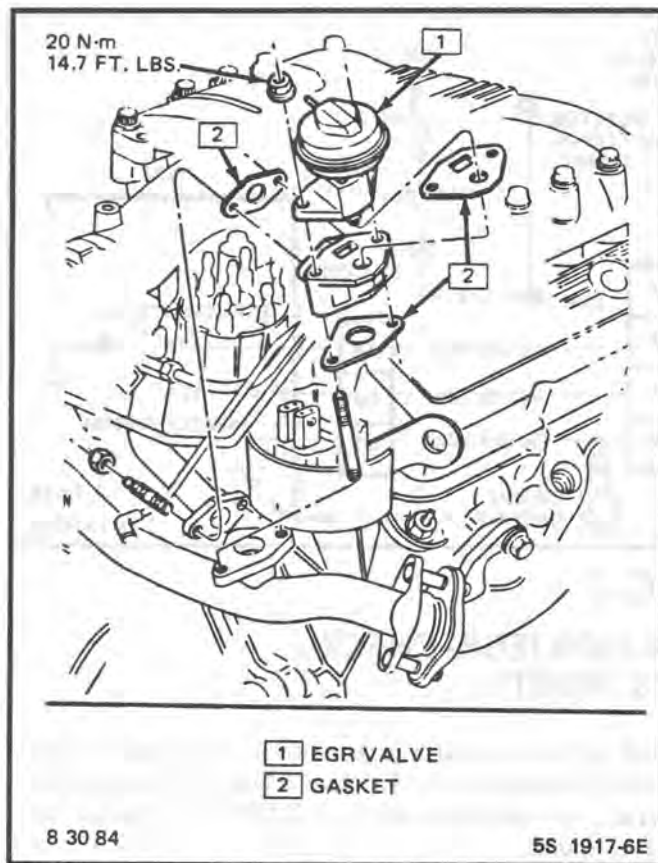

Figure C7-5 EGR to Manifold Mounting 2.8L
**EGR VALVE 2.8L (Figure C7-5)**